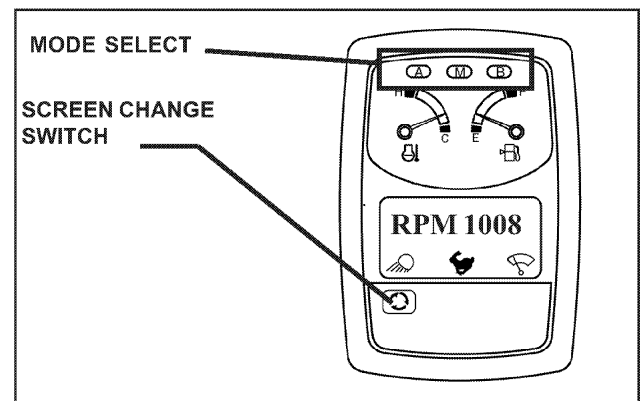

FIGURE 5.3
4. Check the gauge cluster and confirm that the machine is in the default "M" mode. See Figure 5.3.
5. Locate the screen change switch, depress the switch once to select RPM. Check that engine low and hi RPM are at the proper adjustment. See Figure 5.3.